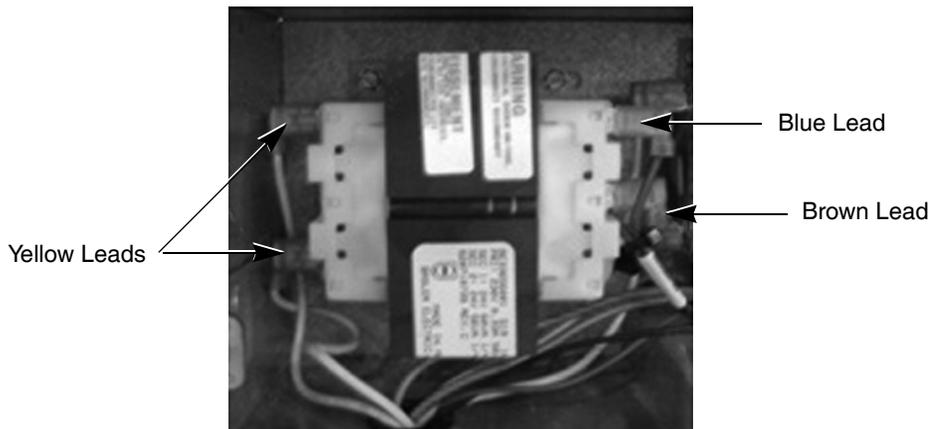

Figure 3. Transformer Lead Location and Colors
- Connect the yellow lead to the left hand terminal on the transformer. Connect the blue and brown leads to the right terminals, as shown in Figure 3.